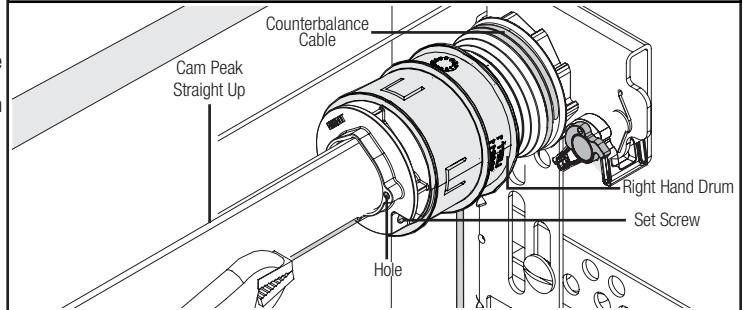

FIG. 1.2
**STEP 2:** If there is spring tension and starting with the right hand side, ensure ratchet pawl knob is in upper position, as shown in Fig. 1.2.